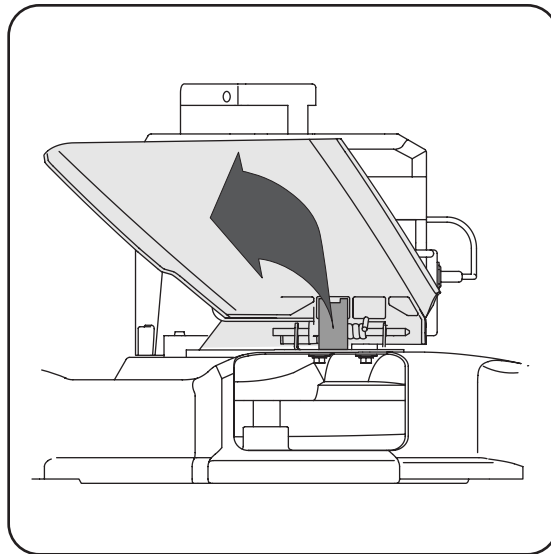

Figure 3-1
- a. Push chute deflector up towards engine. Holding deflector in this position, remove the retainer and discard. See Figure 3-1.